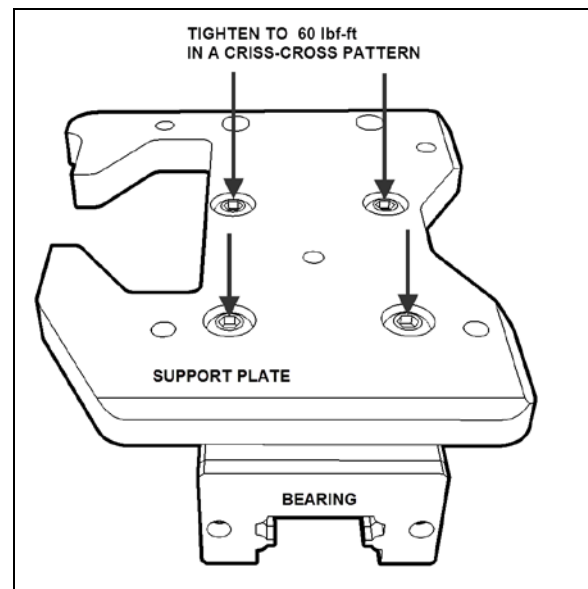

FIGURE 24: BEARING MOUNTING SCREWS
5. Remove the support and bearing assembly. Turn the assembly upside down to access the bearing mounting screws (Figure 24) Dismount the linear bearing and install the new one.